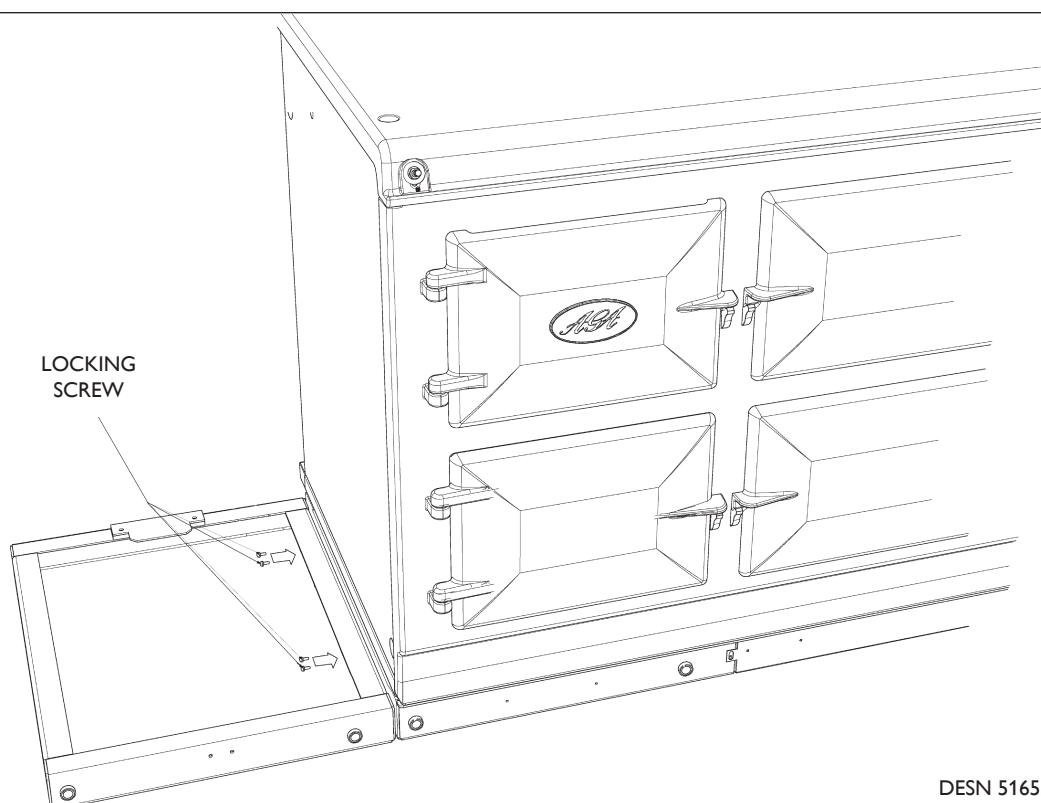

Fig. 5.4
3. Attach hotcupboard plinth to the AGA Signature (eR7i) plinth using M6 screws and washers provided (**Fig. 5.4**). Attach locking screw into plinth.